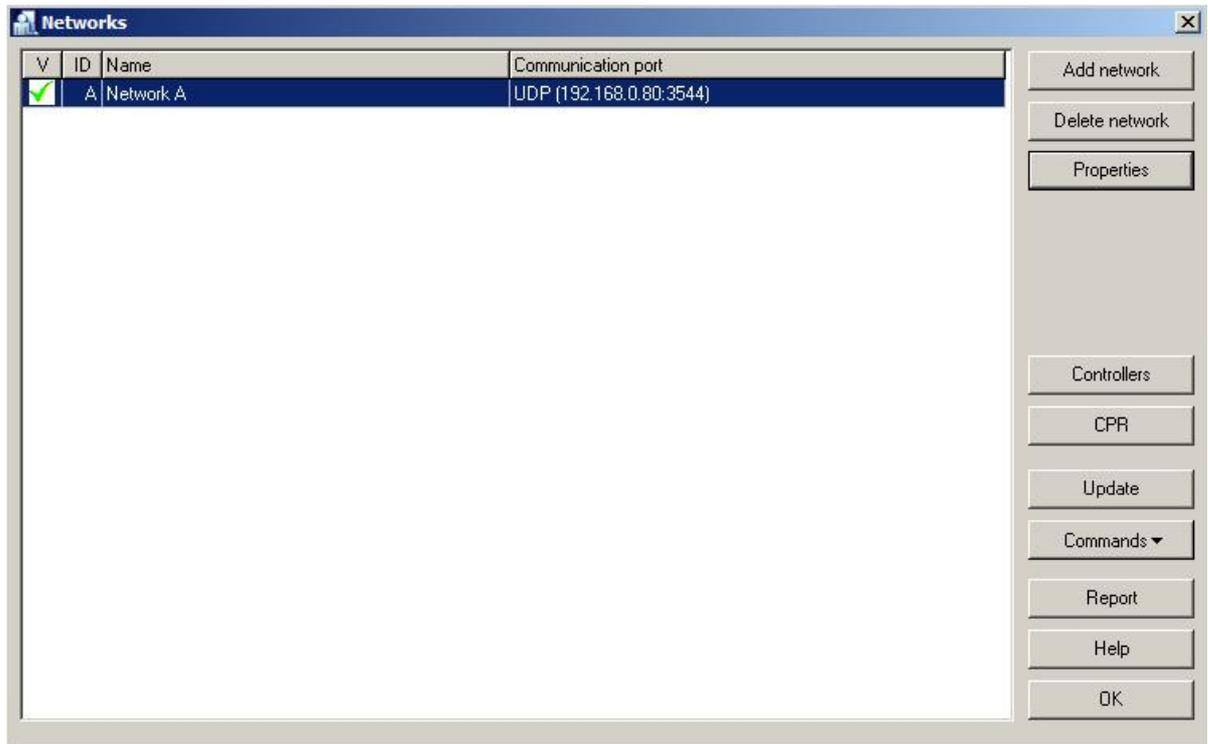

Fig. 5 Networks window
7. Click the button **CPR** in the window shown in fig. 5.
11. In window shown in fig. 5 press the button **Controllers**.